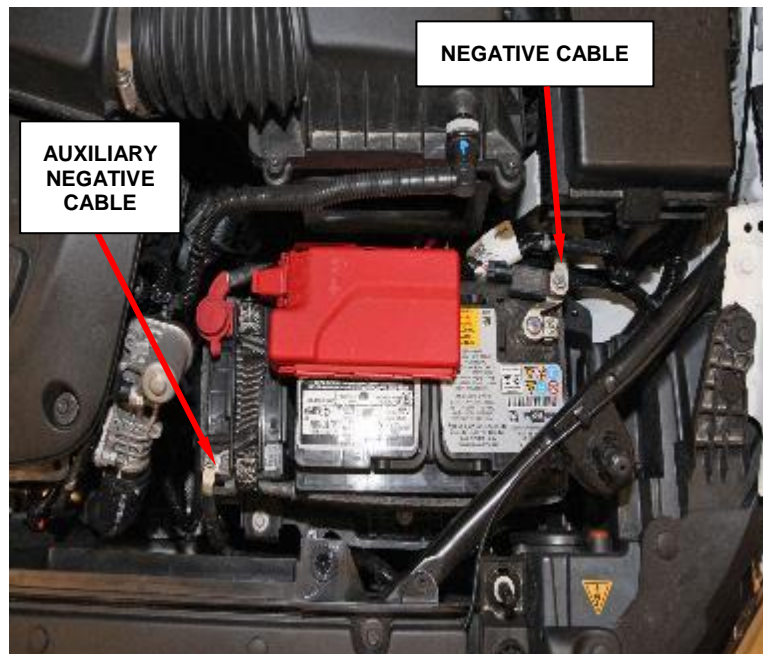

Figure 2 – Negative Battery Cables
3. Disconnect the negative battery cables (Figure 2).